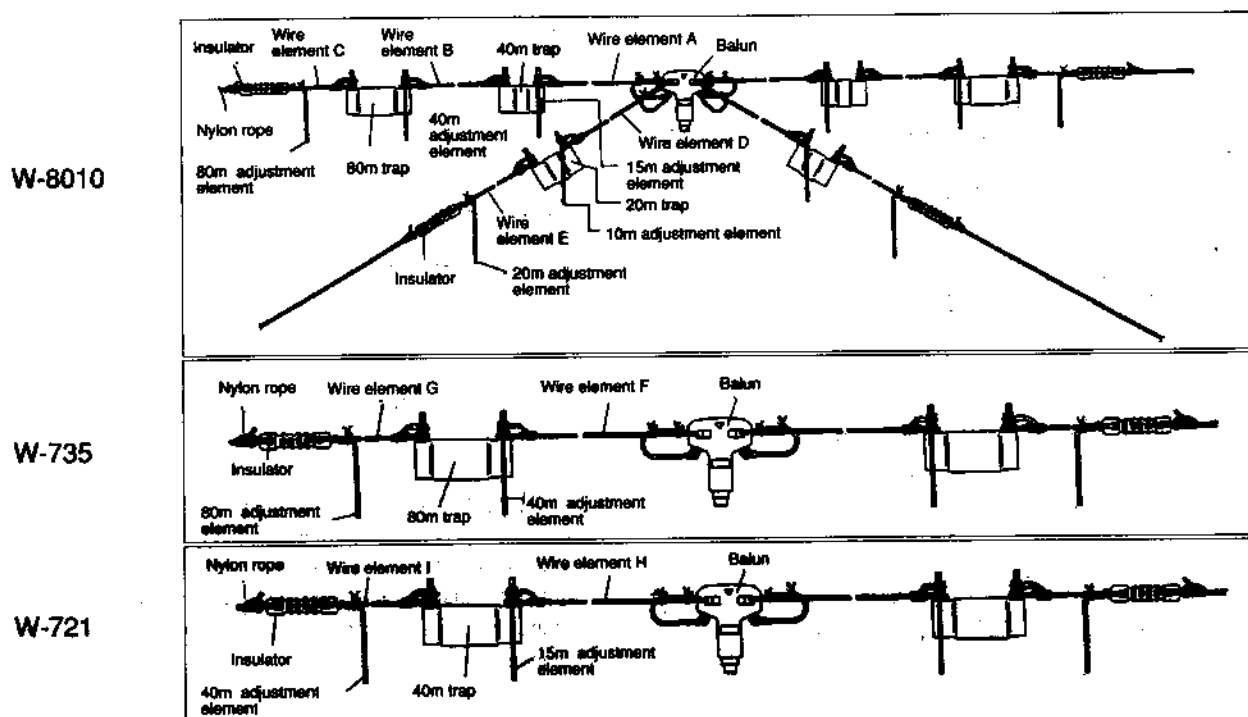

FIG.1
1. Turn wire element approximately 20cm (7.9") through balun and bind two parts by binding wire as shown per Fig.1. In case of the W-8010, two wire elements for one side are bind together.